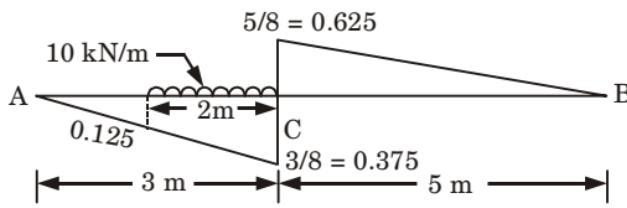

Fig. 4.7.2.
- i. Maximum negative shear force occurs when the load is applied as shown in Fig. 4.7.2 on AC.